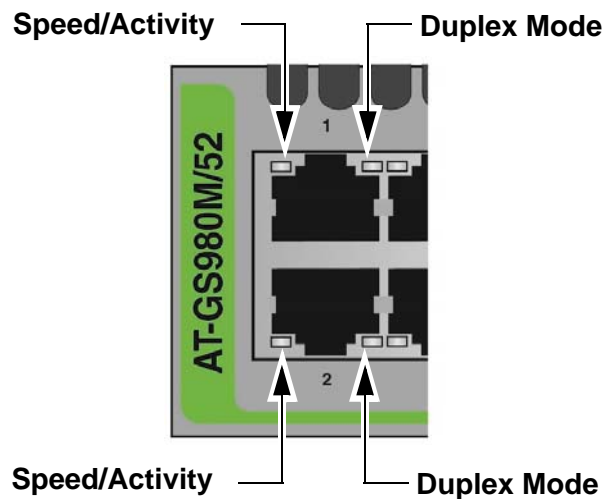

Figure 4. LEDs for the Twisted Pair Ports on the AT-GS980M/52 Switch
**LEDs** The twisted pair ports on the AT-GS980M/52 Switch have two LEDs. The LEDs are shown in Figure 4.